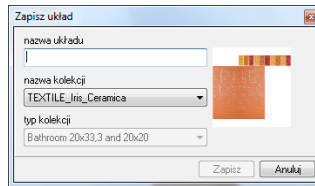

Fig. 193 – saving a set
- if the preview looks satisfyingly, click the **Save** button and enter data in the **Save set...** dialog (Fig. 193);